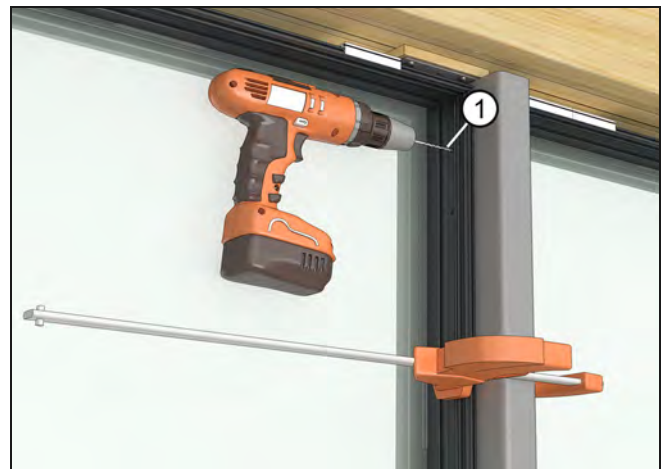

Figure 148
33. Use the installation holes as a guide and bore into the steel with a #23 drill bit. See Figure 148.